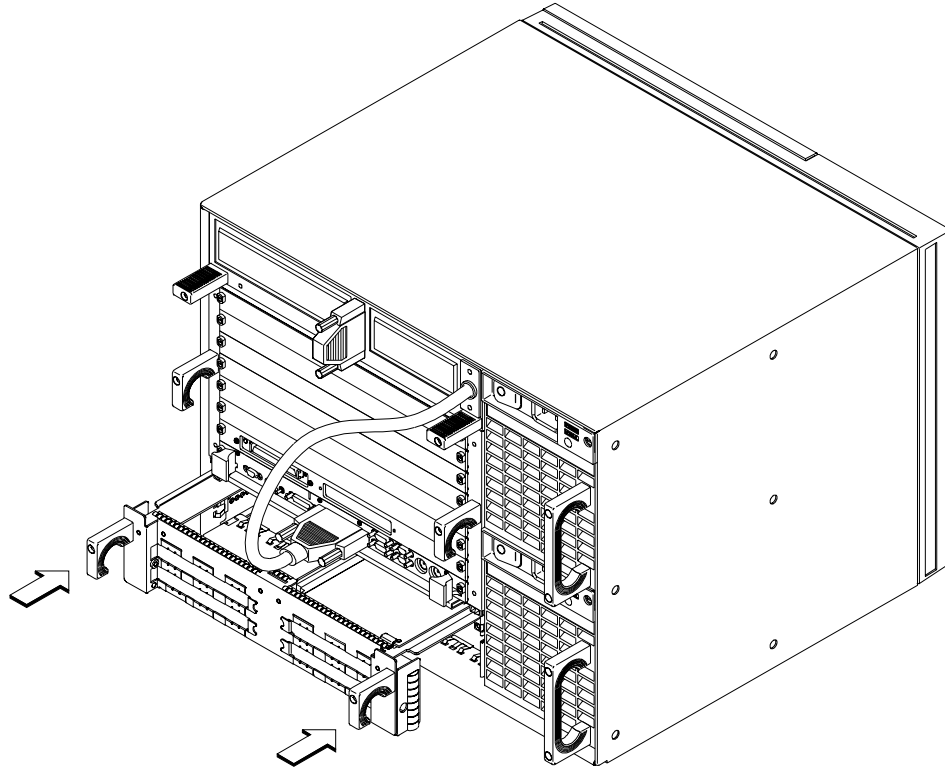

Figure 5
- 10 Slide the PCI module into the VMEbus chassis, as shown in Figure 5, and tighten its handle screws.